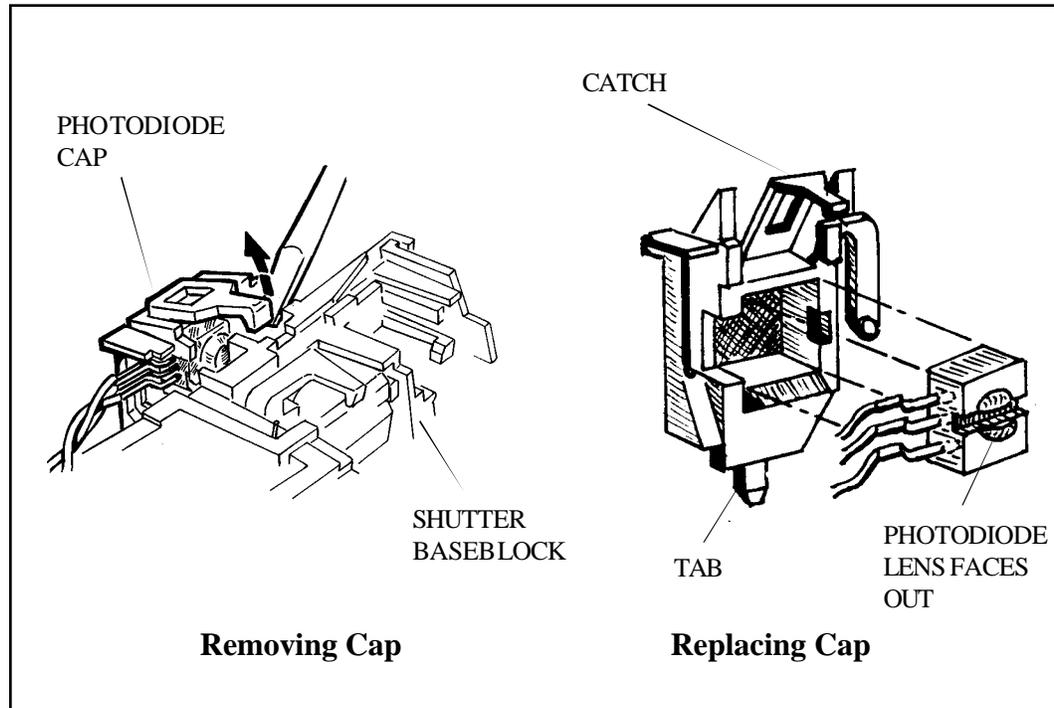

Figure 3-11. Removing and Replacing Photodiode and Cap
- b. Lift the Cap off the Shutter Baseblock and lift out the Photodiode with its cable assembly attached (Figure 3-11).
- a. Place the Photodiode in its cavity in Cap with lens facing out (Figure 3-11).